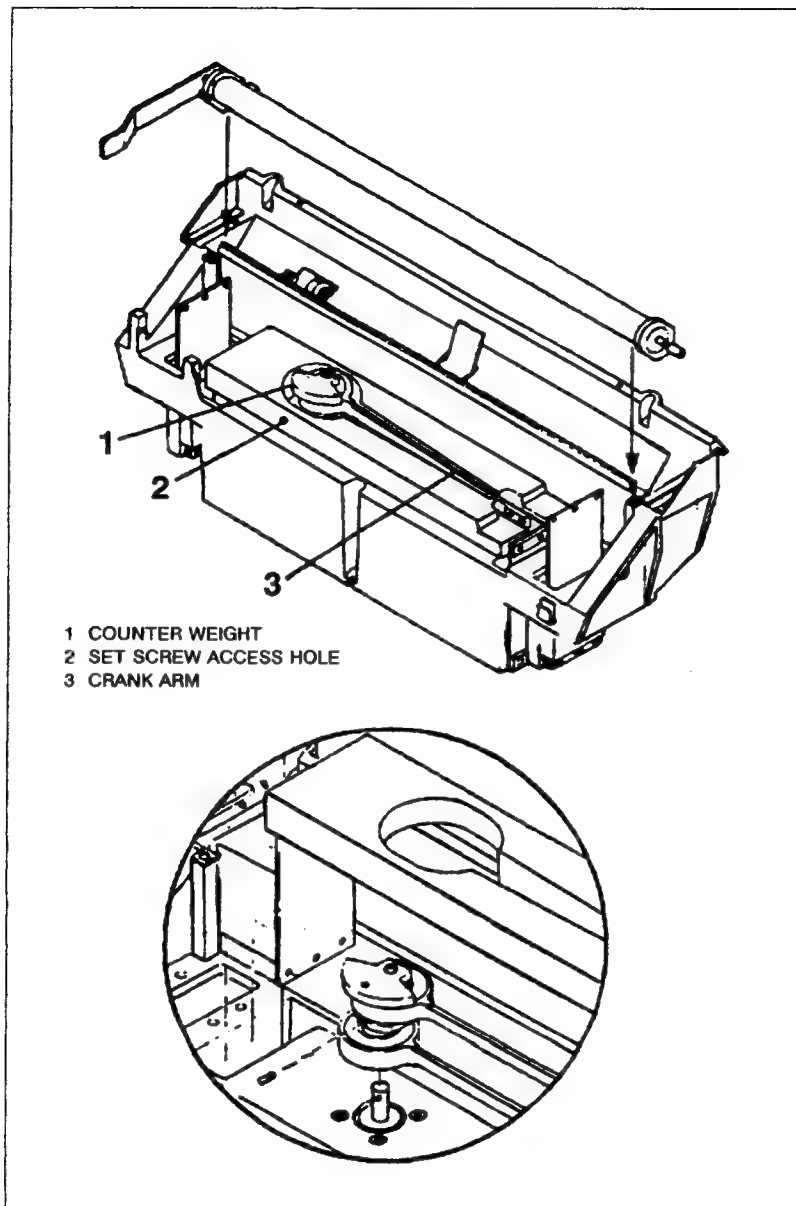

Figure 6-14. Crank Assembly Set Screw
- g. To remove the crank assembly from the motor shaft, use your right hand to lift up on the right end of the crank arm, applying a light upward pressure on it. With your left hand grasp the left edge of the crank counter weight assembly and lift up. The crank assembly should slide off the motor shaft (see Figure 6-14).
- b. Rotate the drive motor shaft until set screw hole in the shaft is approximately in line with the set screw access hole in the print mechanism (see Figure 6-14, item 2).